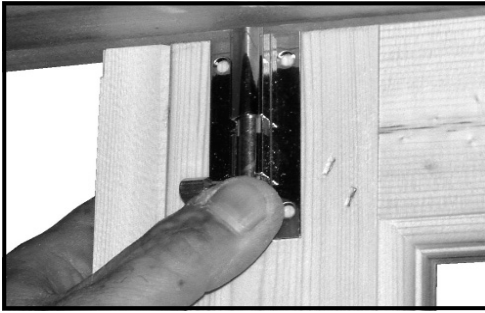

Fig C4
- Fit two bolts on the door without the lock (fig C4). The top bolt should be positioned level with the top of the door. Fix with 4x10mm screws.